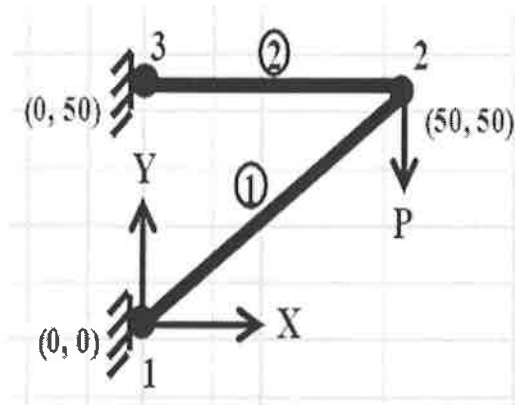

Fig.2
8. Consider the truss shown in Fig. 2, it is given that  $E=2 \times 10^5 \text{ N/mm}^2$ . Complete the following. Take  $P = 2000 \text{ N}$